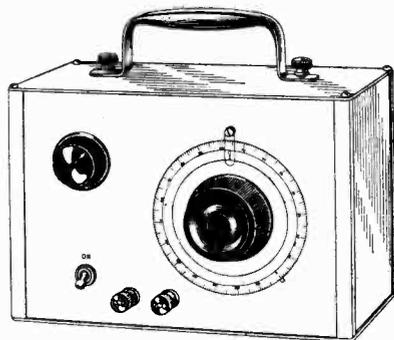
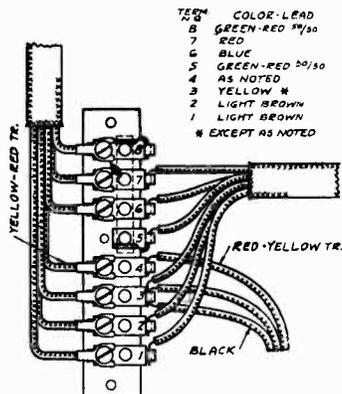
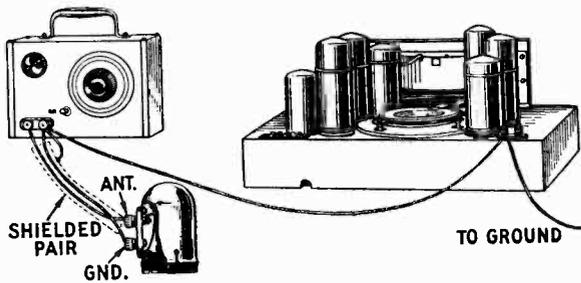

Fig. 6—Victor Oscillator.
Fig. 8—Top View of Amplifier Terminal Strip.
Fig. 10—Wiring for Exploring Coil Tests.
a. **Terminal Strip Tests.** Test the voltages at the terminal strip, Fig. 8, with all tubes in place and compare the readings with those listed in chart No. 1 on page 15. This will tell in a general way if the proper voltages are being delivered to the chassis from the amplifier.
Touch a wire across terminals 4 and 6 of the amplifier terminal strip as shown in Fig. 8. If there is a noticeable click in the speaker as this is done, it will be known that the audio amplifier and speaker system is functioning properly.
c. **Radio Chassis Tests with Exploring Coil and Oscillator.** If an oscillator such as shown in Fig. 6 and a 0-4 volt A. C. voltmeter (in Weston 547) are available, a quick and simple test can be made to locate any defect in the R. F. circuit between the detector and the antenna binding post. An exploring coil is used, consisting of several turns of No. 18 insulated solid copper wire fitted into a UY-227 tube shield, stock No. A2319. The shield is equipped with a set of antenna and ground binding posts as shown in wiring diagram Fig. 10. One end of the coil is connected to the "ANT." post and the other end is left disconnected. The "GND." post is grounded to the shield. The meter is connected to terminal 3 of the amplifier terminal strip, Fig. 8, and to the link terminal on the amplifier base, nearer the UX-245 Radiotron. The link is left disconnected.